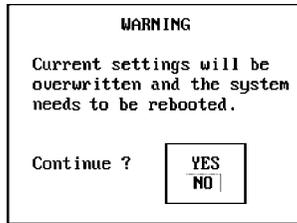

Figure 3-7. Factory Defaults Warning Message
2. Respond to the warning message shown in Figure 3-7. When you select *Yes* the default settings are loaded and the system reboots. The factory default settings take effect after the system reboot.